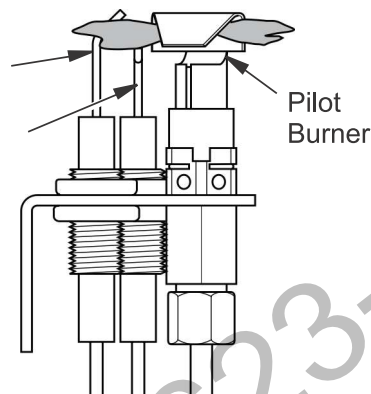

Figure 39 - Correct Pilot Flame Pattern
- Turn the adjustment screw marked PILOT clockwise to decrease or counterclockwise to increase the flame to proper size (see Figure 39). Do not remove the adjustment screw.